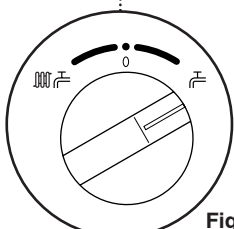

Fig. 14
1. **For short periods:** Turn the selector switch to the DHW position (Fig. 14).